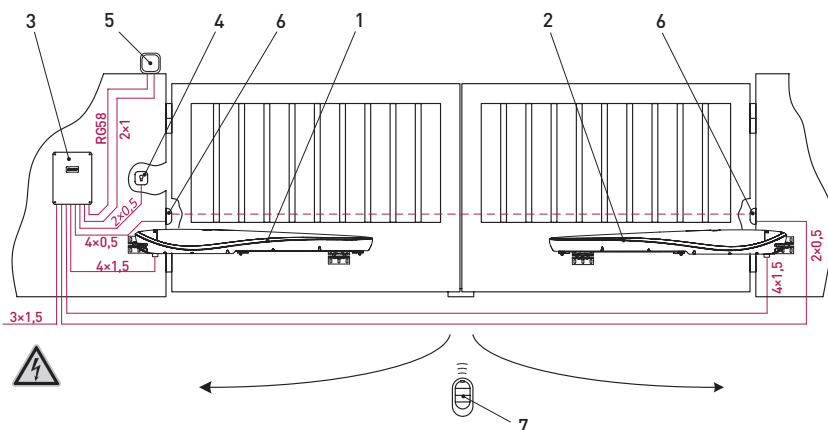

Figure 3. A typical automation diagram for a double-leaf swinging gate (opening inwards)
- determine the location to mount each component of the drive system (*fig. 3*). Both the drive and the control unit must be mounted on the interior surface of the gate. Together with the user, determine the locations for mounting control devices.
- Lead the electrical cables to the locations where the drive system components are to be mounted, observing the regulations in force. In accordance with the typical diagram (*fig. 3*), it is recommended to use cables with a length not exceeding 20 m.